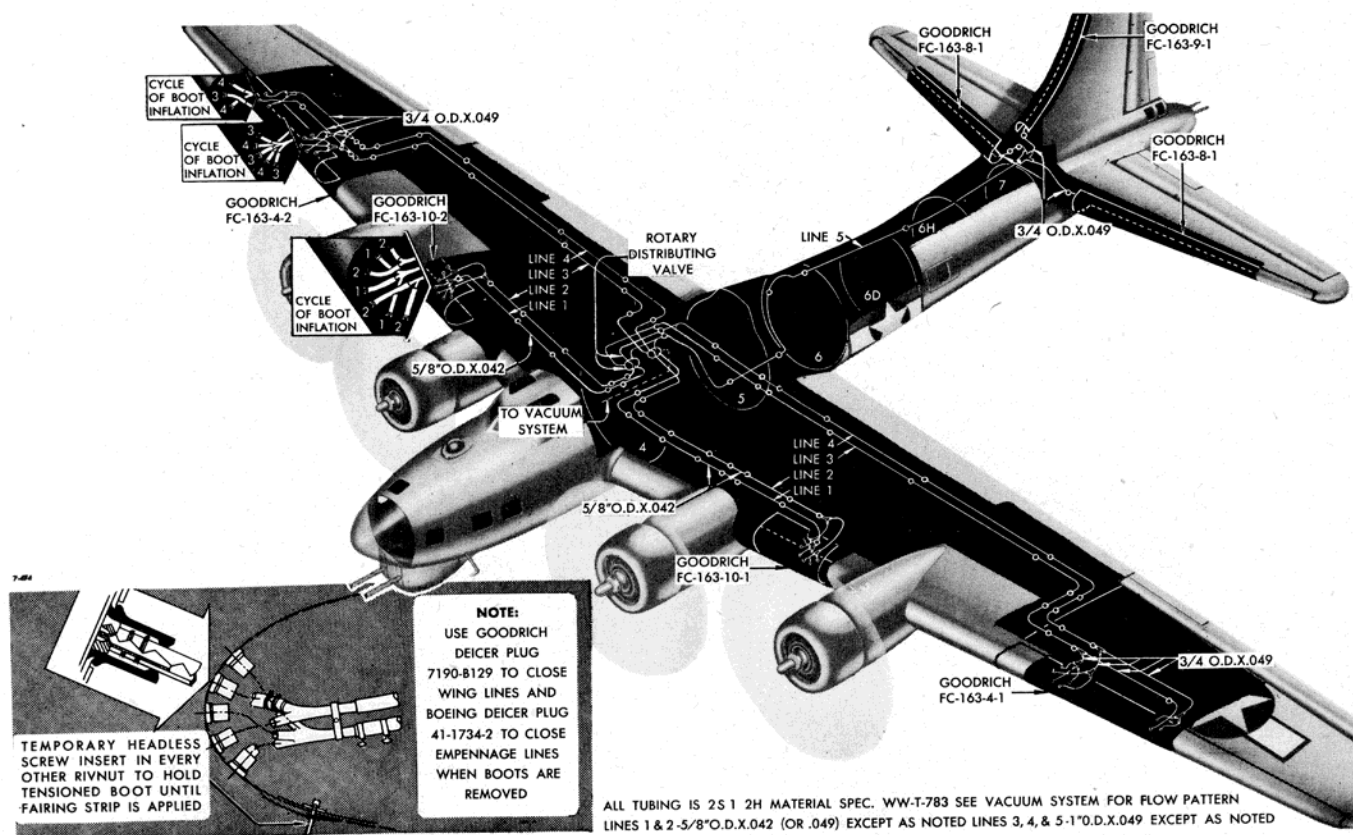

Figure 356—Surface Deicer Tubing Diagram
c. If the airplane is to be flown without the deicer shoes installed, the open ends of the rubber tubing must be plugged as indicated on the surface deicer tubing diagram (see figure 356) and the cover plate must be moved over to the adjacent set of rivnuts.